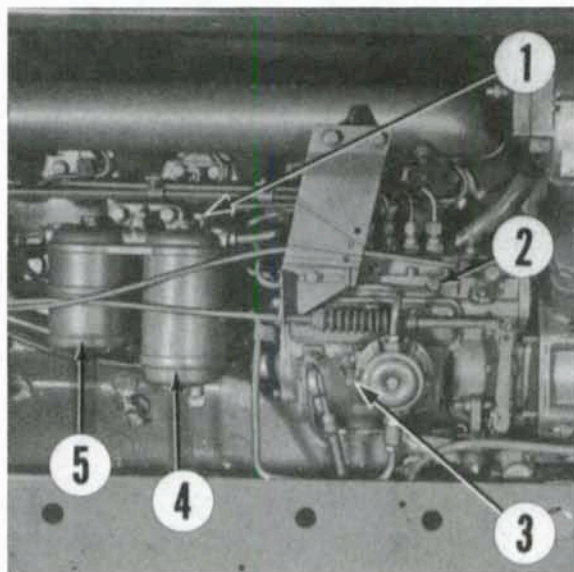

Fig. 113—View of injection pump, fuel filter and sediment separator showing location of air bleed screws (1 and 2).
To bleed air from system, loosen bleed screw (1—Fig. 113) on filter housing. Actuate hand priming lever on fuel lift pump (3) until air free fuel flows from bleed screw, then tighten bleed screw. Loosen bleed screw (2) on injection pump and actuate priming lever. Close bleed screw when air-free fuel flows from injection pump. Loosen injector line fittings at the injectors. With stop control in “run” position and throttle lever in full speed position, crank engine until fuel is discharged at the injector line connectors. Tighten fuel line fittings and start engine.